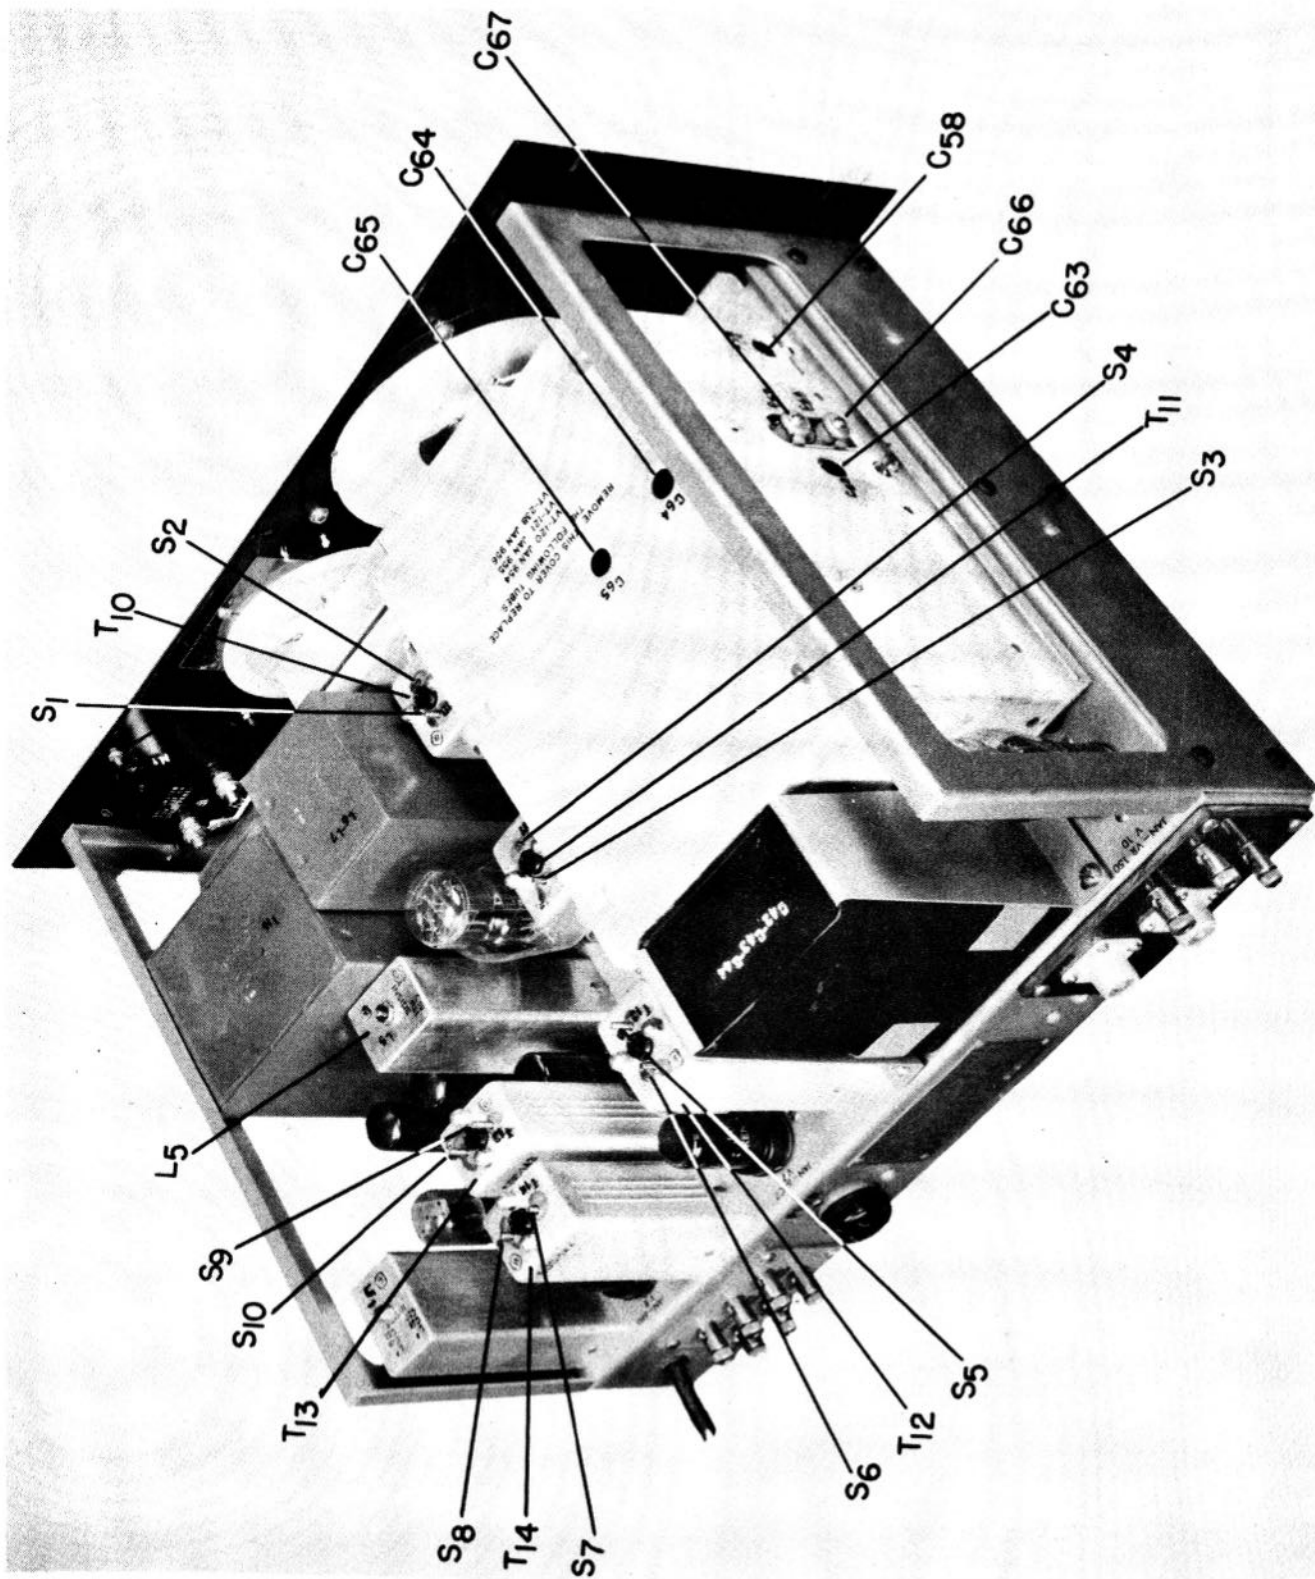

Figure 8. Radio Receiver CHL-46130-D, Top View Showing Alignment Points
(3) Set the signal generator frequency at 5.25 MC. and with the 400 cycle modulation turned on, align transformer T10, T11, T12 and T13 by adjusting the slug adjustment screws S1, S2, S3, S4, S5, S6, S9 and S10. Refer to figure 8 for location of these adjustment screws. A bakelite screw driver with a metal or insulated tip is necessary for accurate alignment.
(4) Repeat the alignment procedure at least once to insure an accurate alignment.
(5) The discriminator transformer T14 is aligned as follows:
d. R-F ALIGNMENT.— Refer to figure 8 for location of alignment controls.
(1) Connect the signal generator to the antenna terminals A1 and A2 and wire the dummy antenna resistor (50 ohm noninductive resistor) across the generator terminals. Connect the output meter to the speaker terminals.
(2) Set the controls on the receiver as for i-f amplifier alignment. Refer to paragraph D-3. b. (2).
(3) Turn on 400 cycle tone modulation on the signal generator.
(4) Align the three bands as follows: